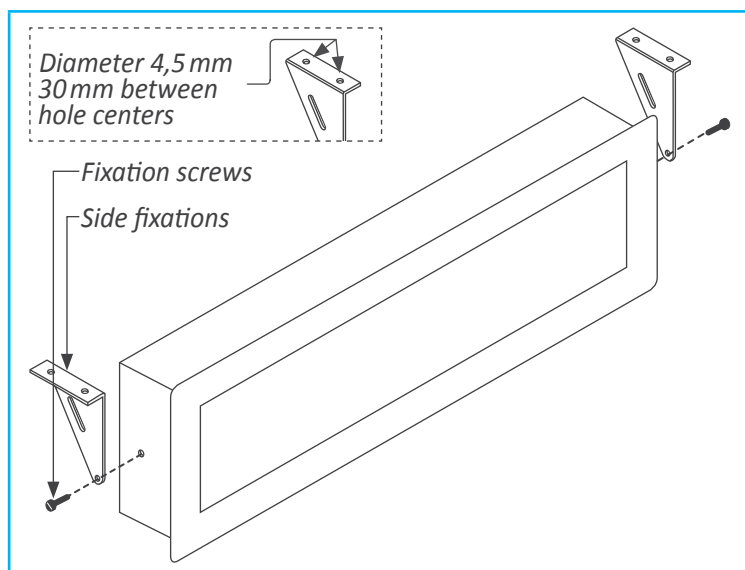

Figure 13 - Hanging mount
- Hanging mount. Mount the side fixations as shown (see Figure 13). Each fixation has 2 holes with 4,5 mm diameter and a separation between hole centers of 30 mm. Instrument can be hanged using cable, threaded rod,